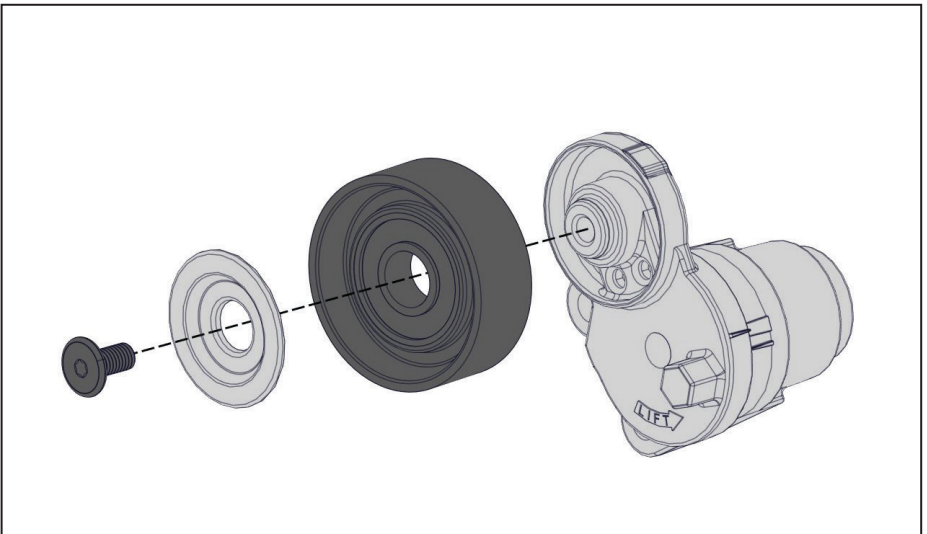

Figure 8 — Mount back idler
- Using the OEM fastener and dust shield, install the supplied back idler (in cases where there is a fender washer attached to the idler, cut the cable tie and discard the larger washer) (Figure 8).